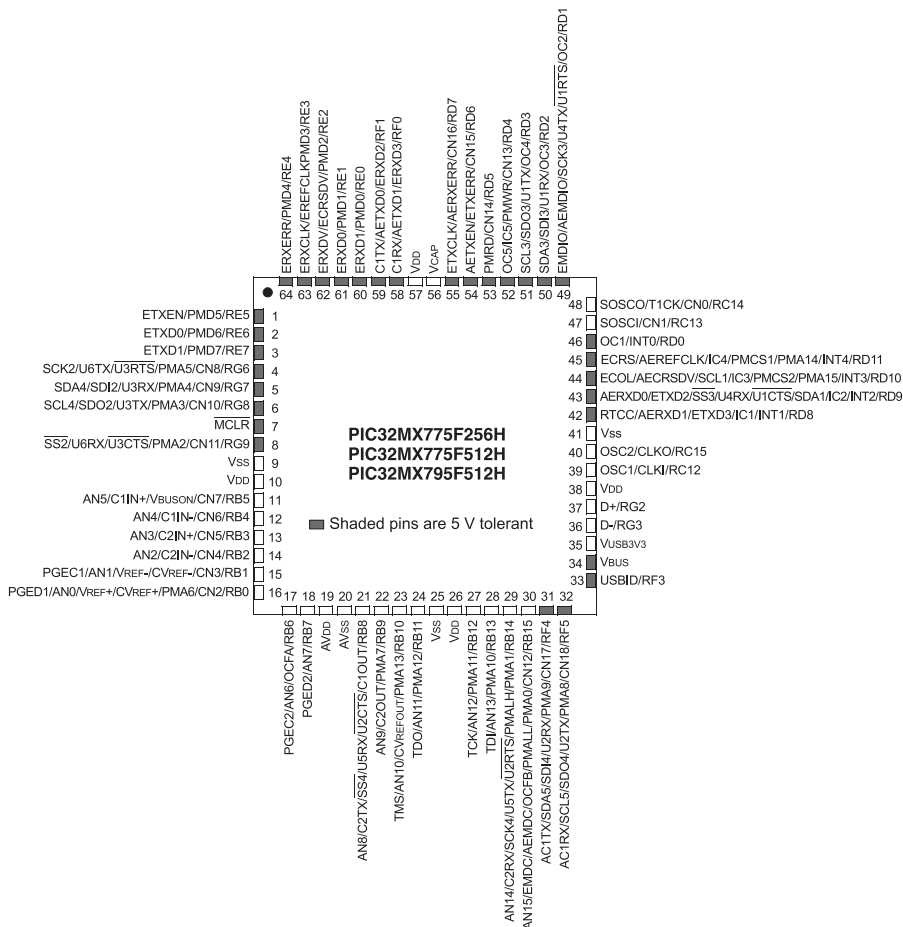

Figure 2.1
Pins connect the peripherals to the outside world. To cram so much functionality into only 64 pins, many serve multiple functions. See the pinout diagram for the PIC32MX795F512H (Figure 2.1). For example, pin 12 can be an analog input, a comparator input, a change notification input (which can generate an interrupt when an input changes state), or a digital input or output.
For example, pin 51 in Figure 2.1 can be OC4 (output compare 4) or RD3 (digital I/O number 3 on port D). If we wanted to use pin 51 as a digital output we would set the SFRs that control this pin to disable the OC4 functionality and enable RD3 as a digital output. The Data Sheet explains the memory addresses and meanings of the SFRs. Be careful, because it includes information for many different PIC32 models. Looking at the Data Sheet section on Output Compare reveals that the 32-bit SFR named “OC4CON” determines whether OC4 is enabled. Specifically, for bits numbered 0-31, we see that bit 15 is responsible for enabling or disabling OC4. We refer to this bit as OC4CON<15>. If it is cleared (0), OC4 is disabled, and if it is set (1), OC4 is enabled. So we clear this bit to 0. (Bits can be “cleared to 0” or simply “cleared,” or “set to 1” or simply “set.”) Now, referring to the I/O Ports section of the Data Sheet, we see that the input/output direction of Port D is controlled by the SFR TRISD, and bits 0-11 correspond to RD0-RD11. Bit 3 of the SFR TRISD, i.e., TRISD<3>, should be cleared to 0 to make RD3 (pin 51) a digital output.
to 5.5 V, while voltages over 3.3 V on other pins could damage the PIC32 (see Figure 2.1 for the pins that can tolerate 5.5 V).